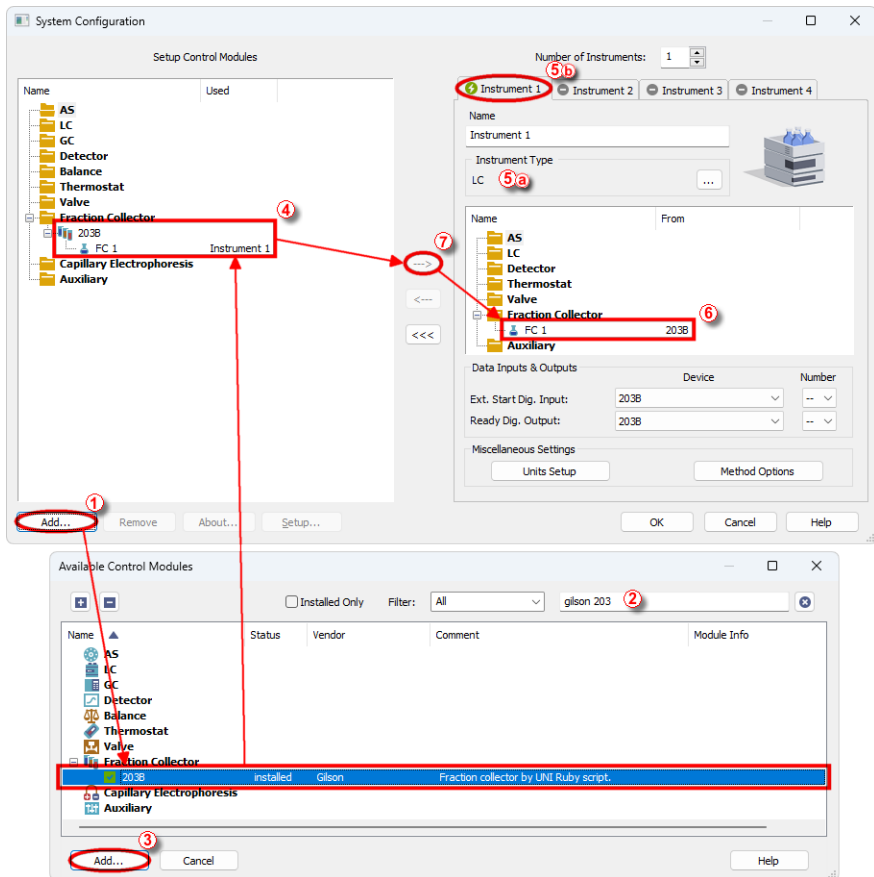

Fig. 2: How to Add UNI Ruby module
- Press the **Add** button (① on Fig. 2 on pg. 3.) to invoke the *Available Control Modules* dialog.
- You can specify the search filter (②) to simplify the finding of the driver.
- Select the correct item and press the **Add** (③ on Fig. 2 on pg. 3.) button. Each device with already created UNI profile should have its own item named accordingly in the *Available Control Modules* dialog.